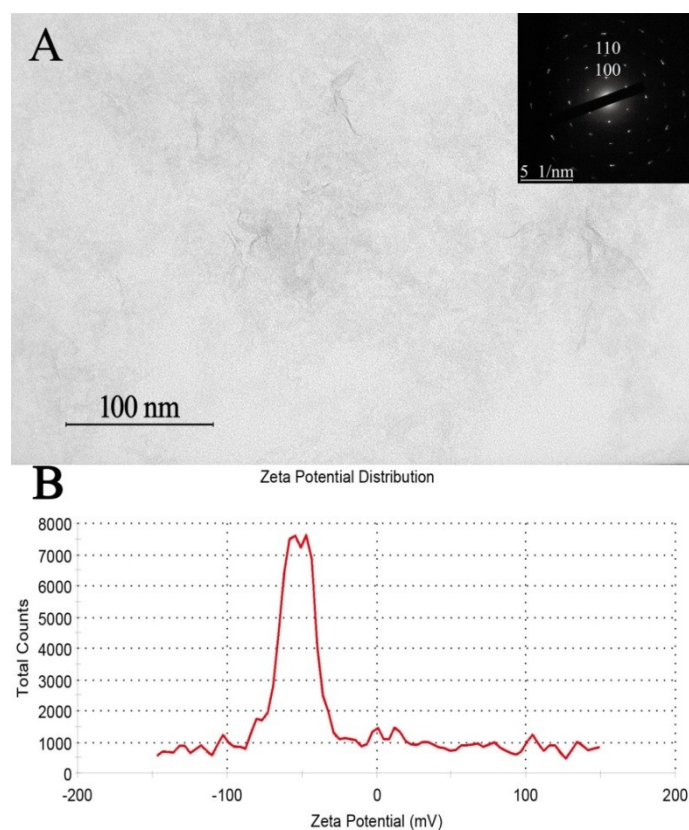

Fig. S1 (A) TEM image of WS₂ nanosheet, Inset: EDS spectrum of WS₂ nanosheet, (B) Values of the ζ potential for WS₂ nanosheet.
Fig. S1 (A) TEM image of WS₂ nanosheet, Inset: SAED pattern of WS₂ nanosheet, (B) AFM image and height profile of WS₂ nanosheet, (C) Values of the ζ potential for WS₂ nanosheet.